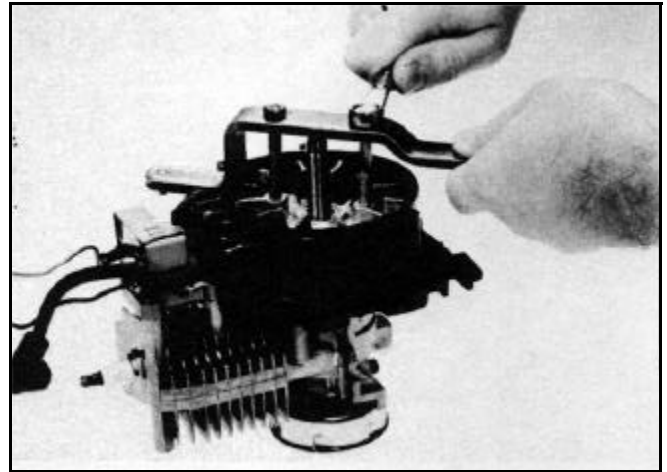

Figure 229
7. Alternate tightening the 1/4 - 20 x 2 inch screws into the cored holes until the seat between the crankshaft and the flywheel is loosened (Figure 229).